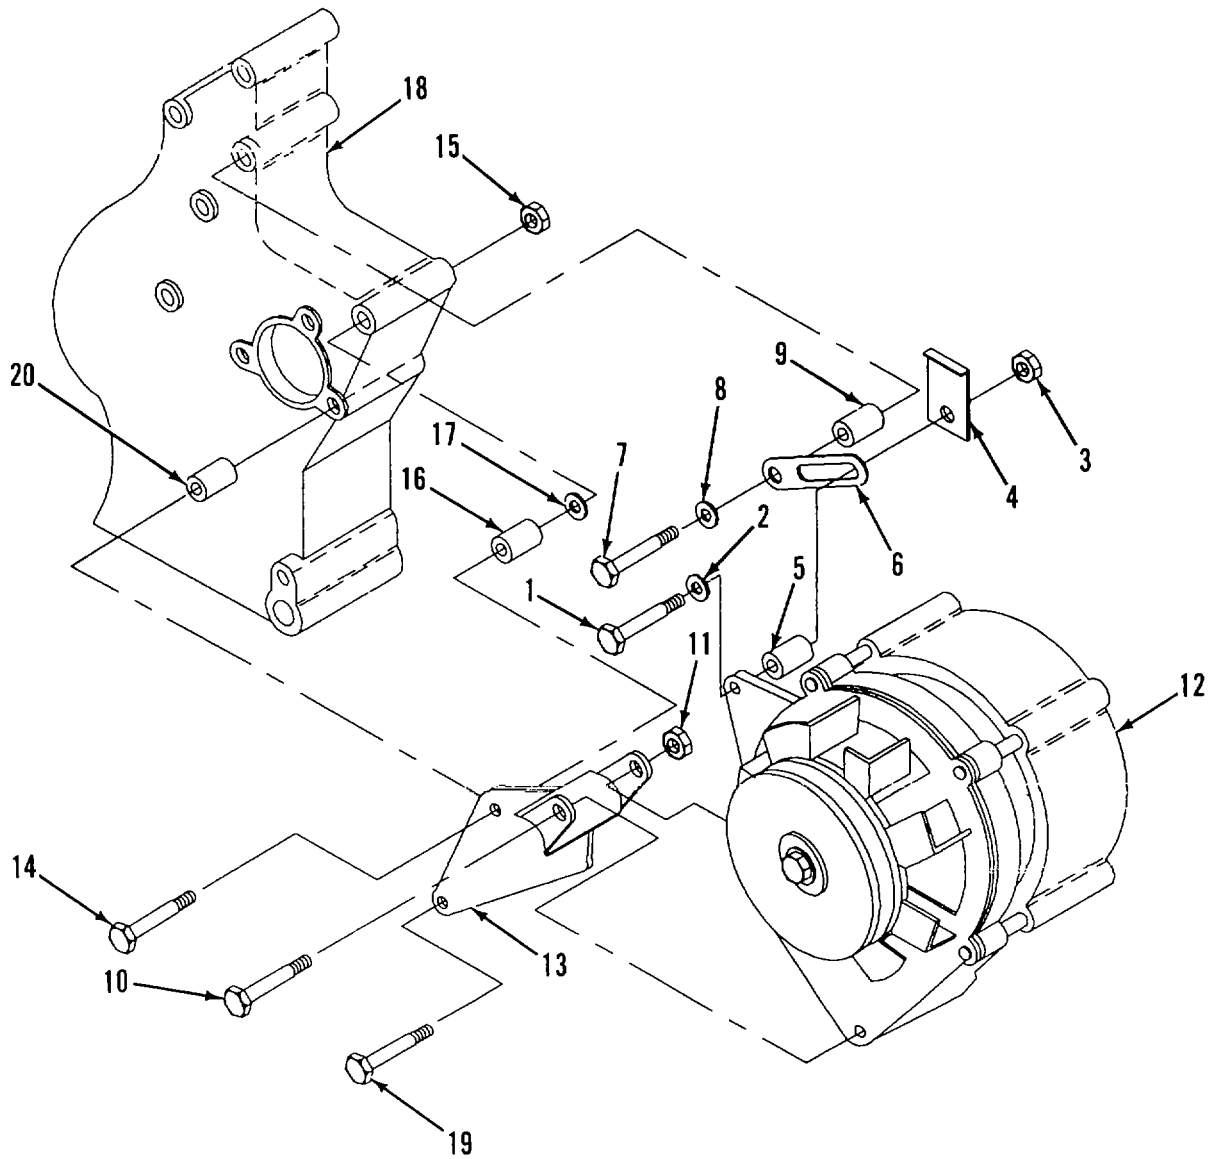

Figure 2-40. Alternator
a. **REMOVE.** (Figure 2-40)
- (1) Tag and disconnect wiring to alternator (12).
- (2) Remove bolt (1), flat washer (2), nut (3), plate (4), and spacer (5) that secure bracket (6) to alternator (12).
- (3) Remove bolt (7), flat washer (8), spacer (9), and bracket (6).
- (4) Remove bolt (10) and nut (11) that secure alternator (12) to bracket (13).
- (5) Remove bolt (14), nut (15), spacer (16), and flat washer (17) that secure bracket (13) to front cover (18).
- (6) Remove bolt (19), spacer (20), and bracket (13).